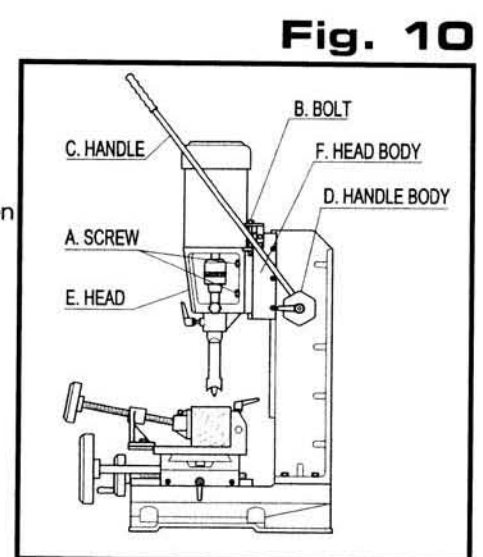

Fig. 10
1. Adjust head when handle (C) can not be set at proper working position. (Fig.10)
2. Loosen two screws (A) and adjust bolt (B) till chisel bit, working piece and handle are at proper position for easy operation. Tighten bolt(B) and screws(A).